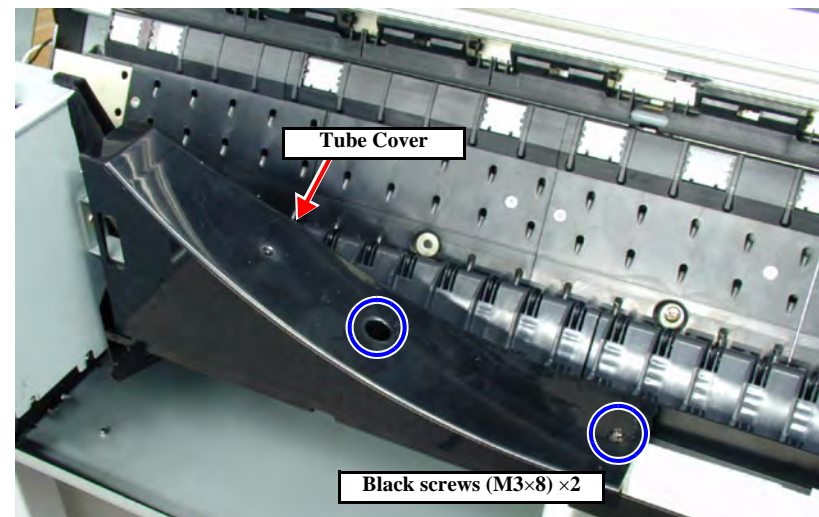

Figure 4-63. Ink Tube Cover Removal
6. Remove two black screws (M3×8) securing the Ink Tube Cover and remove the cover. (See Figure 4-63)
4. Remove two screws (CPP: M3×8) securing the Ink Tube Cover and remove the cover. (See Figure 4-63)